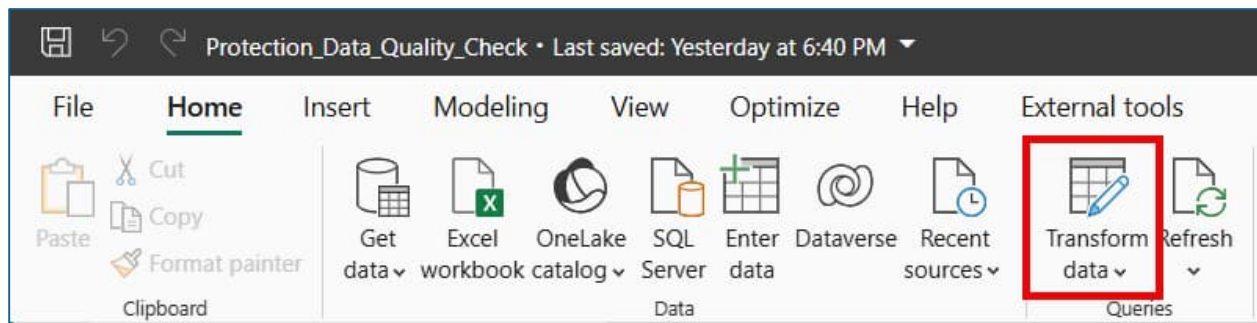

Figure 11: Click Transform data.
5. Click the **Transform data** button. A new window will open. See Figure 11.